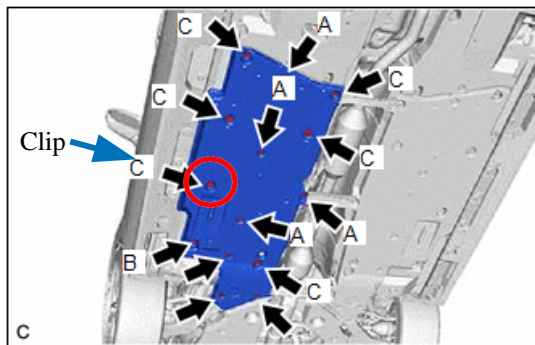

Figure 19
NOTE: Loosen the C-Clip that's highlighted in fig. 19&20. Place a rag over the clip of the inside to ensure the clip does not re-engage.
15. Remove the clip (c) shown in Figure 19 from the front floor cover LH in order to gain access to the front floor pan drain grommet.